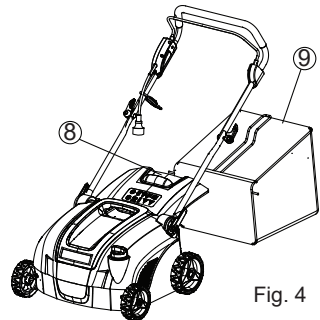

Fig. 4
4. Fitting Fully Assembled Grassbox to Lawnmower (See Fig. 4).
- a. Lift the safety guard ⑧.